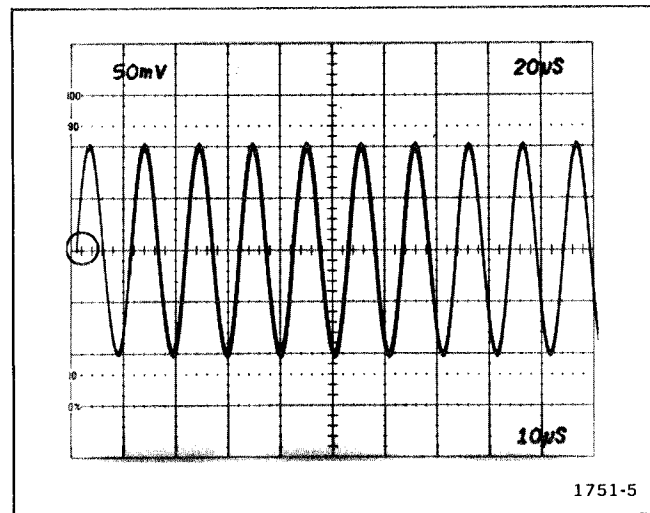

Fig. 5-9. DC balance. (Circle denotes correct trigger point.)
b. Adjust—Int DC Bal, R25, for a stable crt display at graticule centerline (TRIG'D light on). See Fig. 5-9 for reference.
b. Adjust—Ext DC Bal, R59, for a sweep trigger point at graticule centerline. See Fig. 5-9 for reference.
b. Adjust—Int DC Bal, R245, for a Delayed sweep trigger point at graticule centerline. See Fig. 5-9 for reference.
b. Adjust—Ext DC Bal, R225, for a Delayed sweep trigger point at graticule centerline. See Fig. 5-9 for reference.